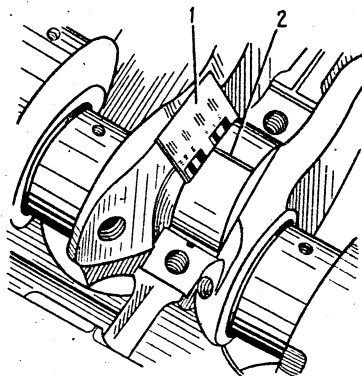

Fig. 2-37. Measuring the Clearance with Scale:
- remove the caps, find the amount of flattening of the calibrated wire from the scale provided on its packing (Fig. 2-37) and thus determine the clearance.